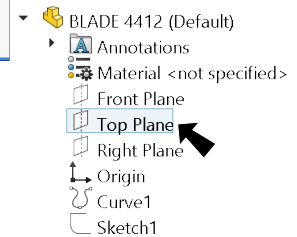

**Fig. 42**
Step 2. Click **Sketch1**  in the Feature Manager and click **Edit Sketch Plane**  on the context toolbar, **Fig. 42**.